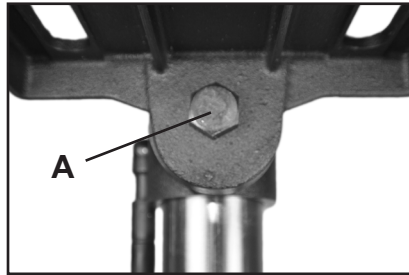
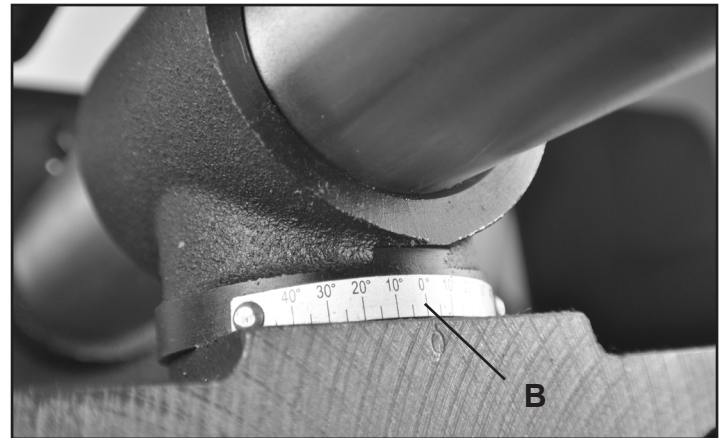

FIG. 8
FIG. 9
9. **TABLE TILT:** The drill press table will tilt 0-45 degrees left and right. To tilt, loosen the nut located under the table (FIG. 8, A). Align the “zero” mark on the table (FIG. 9, B) to the desired degree marking on the scale. Tighten the nut under the table to retain the adjustment.